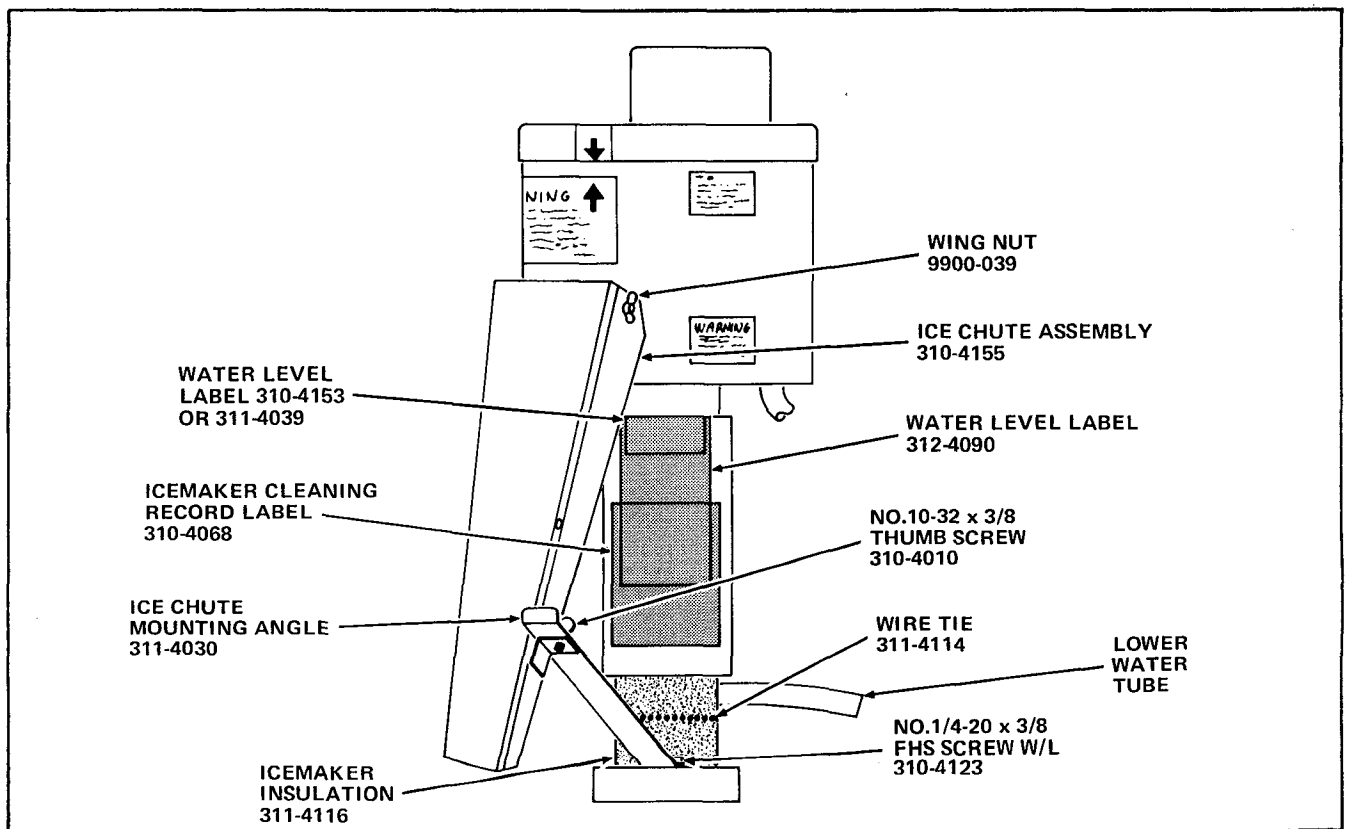

FIGURE IV-1
- A. Attach the appropriate Water Level Label to the replacement Icemaker Assembly Evaporator. See Figure IV-1.
- B. Attach the Icemaker Cleaning Record Label (part number 310-4068) to the replacement Icemaker Assembly Evaporator. See Figure IV-1.
- C. Install the Icemaker Insulation (part number 311-4116) around the Lower Bearing Housing of the replacement Icemaker Assembly. Attach the Insulation with one of the Wire Ties (part number 311-4114). See Figure IV-1.
- D. If the replacement Icemaker Assembly is to be installed in a Merchandiser that is equipped with a National Vendors, Cool-San Manually Actuated Automatic Icemaker Cleaning System, cut the lower plastic tube (Lower Water Tube) on the Icemaker Assembly to a length of 4 3/4". Use a sharp knife and make a clean square cut. See Figure IV-1.
- E. Install the replacement Ice Chute Mounting Angle, Part Number 311-4030, included in the Kit, on the replacement Icemaker. See Figure IV-1. Attach the Angle with the 1/4-20 x 3/8 FHS Screw/Lockwasher, Part Number 310-4123, included in the Kit. Install the replacement Ice Chute Assembly, Part Number 310-4155, included
in the Kit, on the Icemaker. Attach the Chute Assembly to the Icemaker Hopper with the Wing Nut, Part Number 9900-039, included in the Kit, and to the Mounting Angle with the Thumb Screw, Part Number 310-4010, included in the Kit. Place the Ice Chute Cover, Part Number 310-4157, included in the Kit, on the Ice Chute Assembly by fitting the bosses on the Ice Chute Assembly in the holes in the Ice Chute Cover. See Figure IV-1.